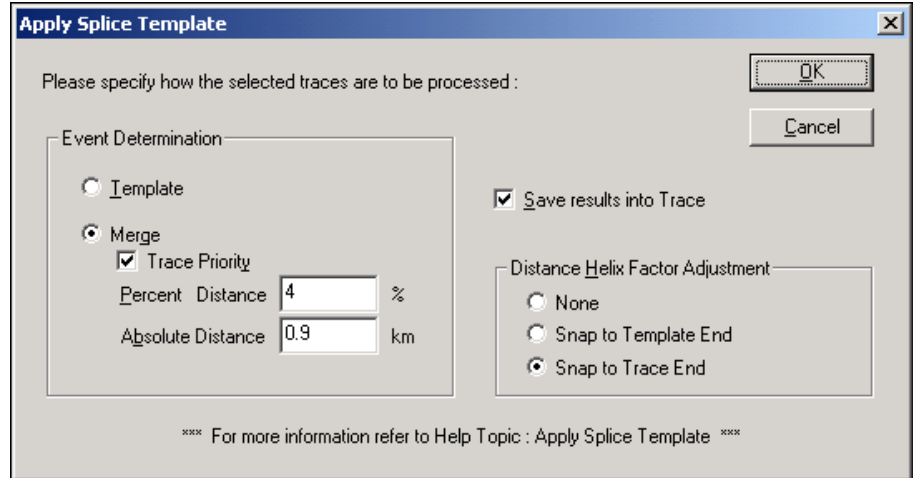

Figure 9-1: Apply Splice Template Dialog Box
4. Select **Trace>Apply Splice Template**. The Apply Splice Template dialog box (Figure 9-1) is displayed
The Apply Splice Template dialog box (Figure 9-1) allows selection of various settings and parameters that determine how traces are to be processed.